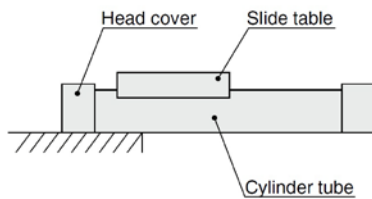

Fig. 4 Mounting with a slide table (slider)
- Do not mount a slide table on the fixed equipment surface as shown in Fig. 4. It may cause damage or malfunction since an excessive load is applied to the bearing.